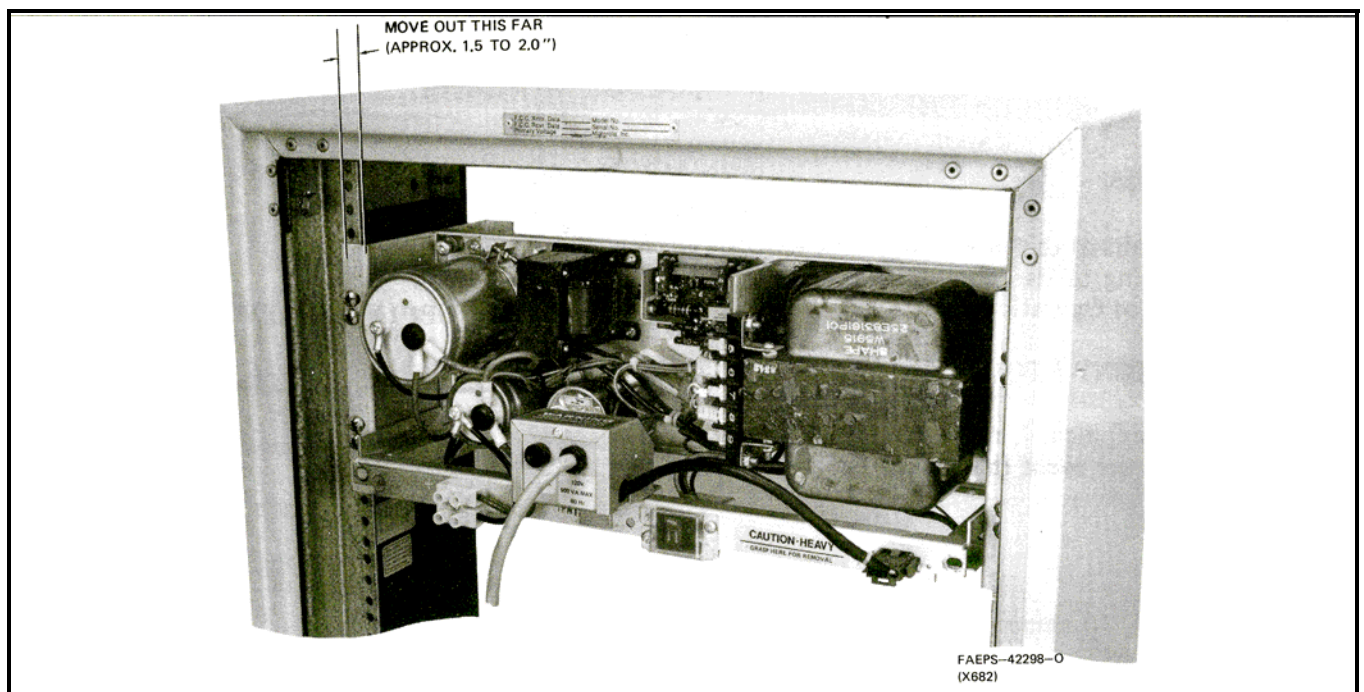

Figure 4. Power Supply Chassis Travel Distance
Step 3. Slide power supply chassis toward you until chassis is flush with cabinet as shown in Figure 4.